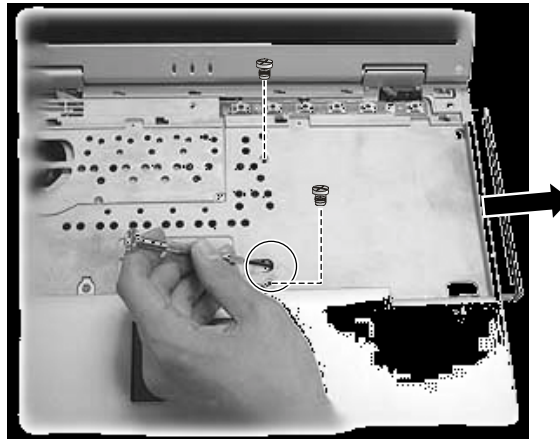

Figure 2-12 Push out the CD/DVD -ROM drive
2. Remove two screws locking the CD/DVD-ROM drive. (Figure 2-12)
3. Use the screwdriver to push the metal pad to the right and the CD/DVD-ROM drive will pop out. Hold the CD/DVD-ROM drive and slide it outwards carefully. (Figure 2-12)